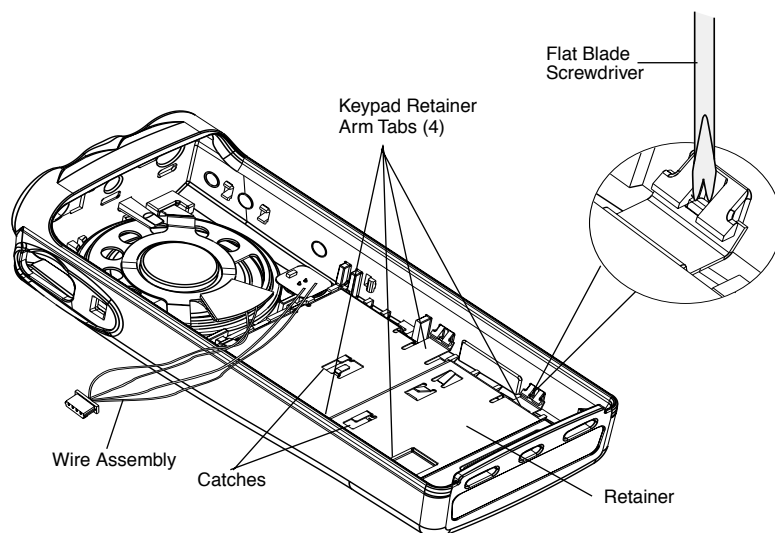

Figure 3-6 Remove Retainer
1. If the disassembly of the keypad printed circuit board is required, open the catches on the keypad retainer and lift the wire assembly up. (See Figure 3-6.)